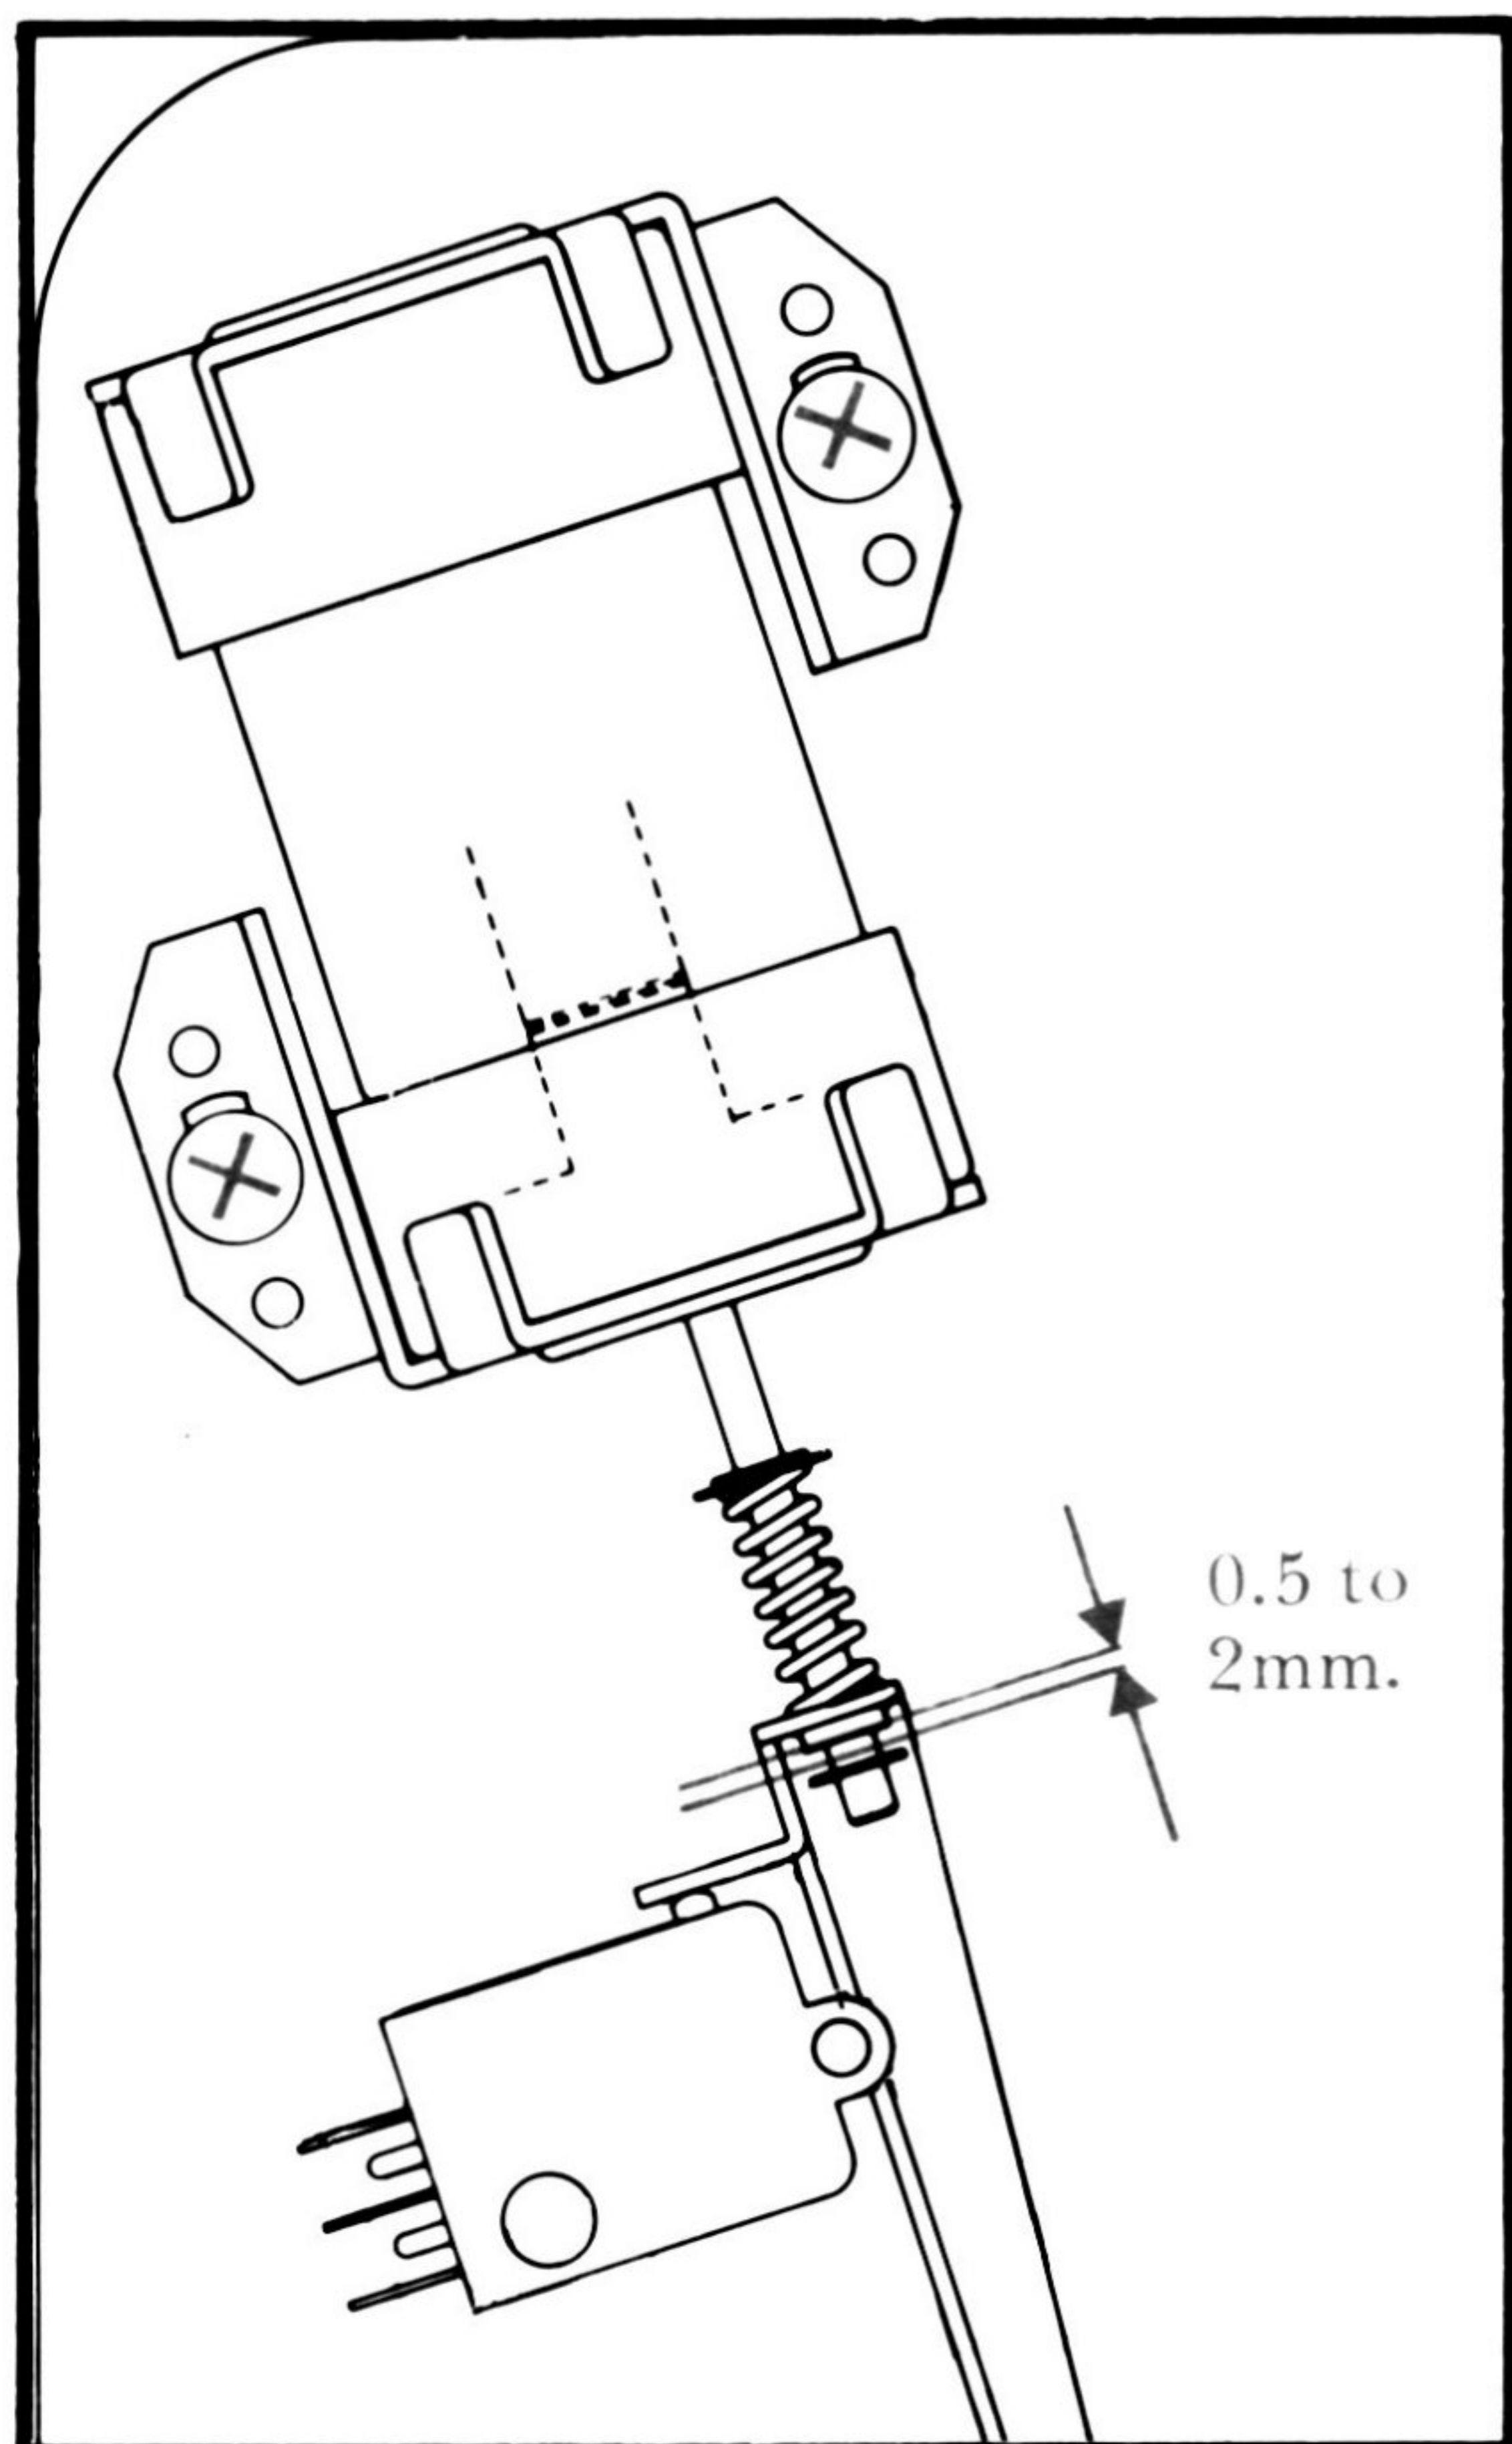

Fig. 3.3 The pinch roller solenoid
3.3 PINCH ROLLER SOLENOID, SEE FIGURE 3.3
Power on and the deck in PLAY. The gap should be 0.5 to 2.0 mm, and if necessary adjust with the screws marked with X in Figure 3.3.